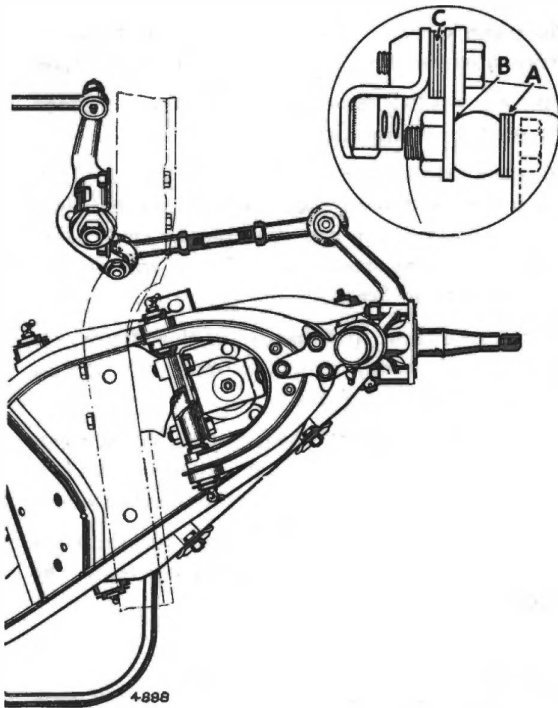

Fig. 13. Plan view of front suspension showing camber shim positions
**To adjust** (See Figs. 13 and 14)
To increase the camber angle move the required number of shims from position (A) to position (B) (See Fig. 13).